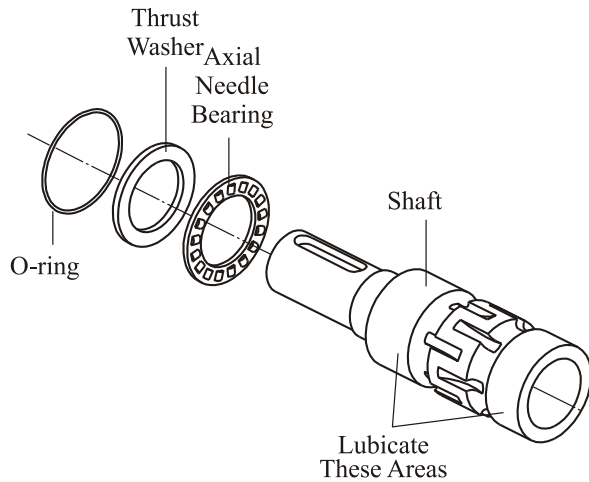

Fig.6
12. Remove thrust washer and needle bearing from shaft (see Fig.6).
1. Lubricate output shaft with hydraulic oil (see Fig.6).